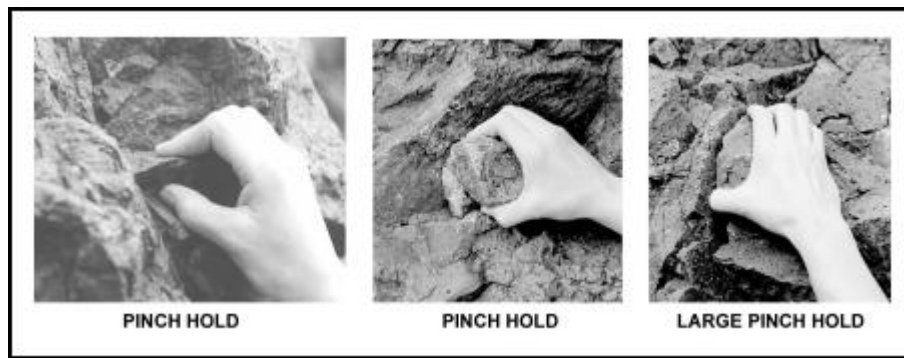

Figure 6-10. Examples of pinch holds.
(3) ***Pinch Holds.*** Sometimes a small nubbin or protrusion in the rock can be "squeezed" between the thumb and fingers. This technique is called a pinch hold. Friction is applied by increasing the grip on the rock. Pinch holds are often overlooked by the novice climber because they feel insecure at first and cannot be relied upon to support much body weight. If the climber has his weight over his feet properly, the pinch hold will work well in providing balance. The pinch hold can also be used as a gripping technique for push holds and pull holds. (Figure 6-10 shows examples of pinch holds.)